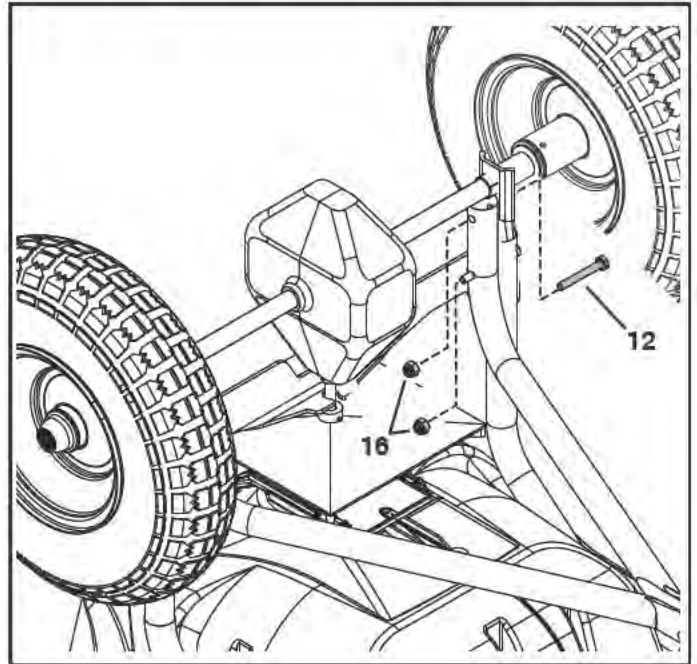

FIGURE 2
STEP 2: (SEE FIGURE 2)
- Attach the RH hitch support tube (2) and LH hitch support tube (3) to the inside of the hopper tubes using pre-assembled bolts, two 1/4" x 1-1/2" hex bolts (12), and four 1/4" nylock nuts (16). **Do not tighten yet.**